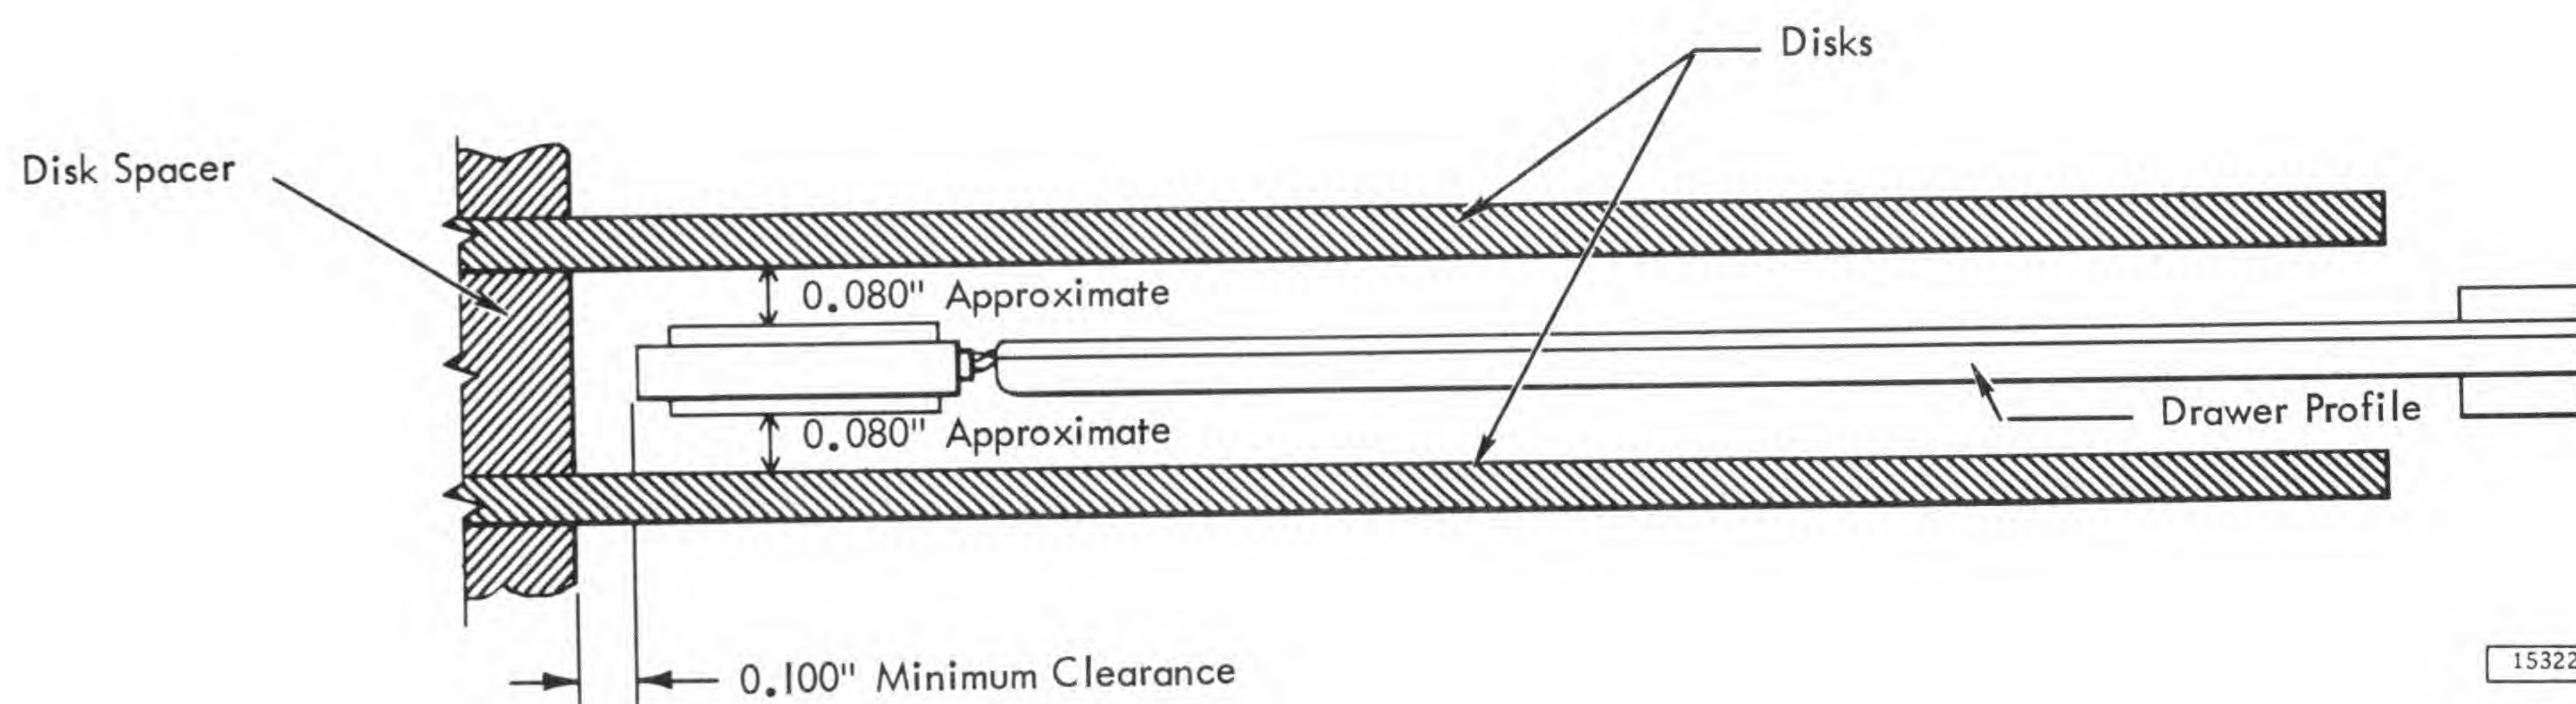

Figure 4-18. Driver Assembly Profile
5. Observe profile of drawers between disks. All drawers must be equally spaced between disks when the access is fully into the disk array against the inner limit stop (See Figure 4-18). If any drawer appears to be badly misaligned, replace drawer.